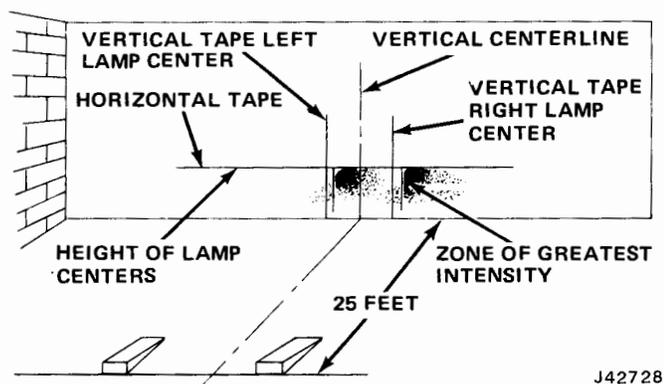

Fig. 3-73 Headlamp Aiming Chart
(15) Turn screw clockwise until top edge of high intensity area is even with horizontal line.
(16) Turn horizontal aiming screw counterclockwise until beam is off centering tape.
(17) Turn same screw clockwise until left edge of high intensity area is 2 inches to right of lamp centerline (fig. 3-73).
(18) Cover lamp that has been aimed and aim other lamp using same procedure.